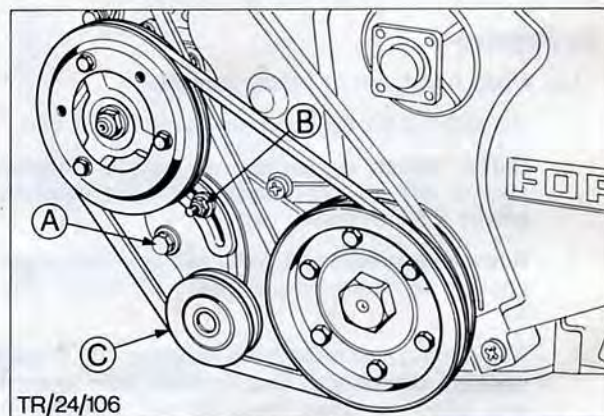

Fig. 35. Auxiliary belt adjustment
2. Slacken off clamp nut on adjustable jockey pulley and remove auxiliary drive belt, Fig. 35.